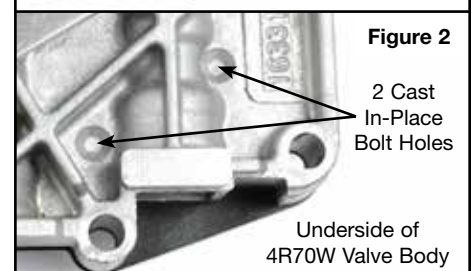

Figure 2
- Locate the two cast in-place bolt hole locations on underside of valve body (**Figure 2**).